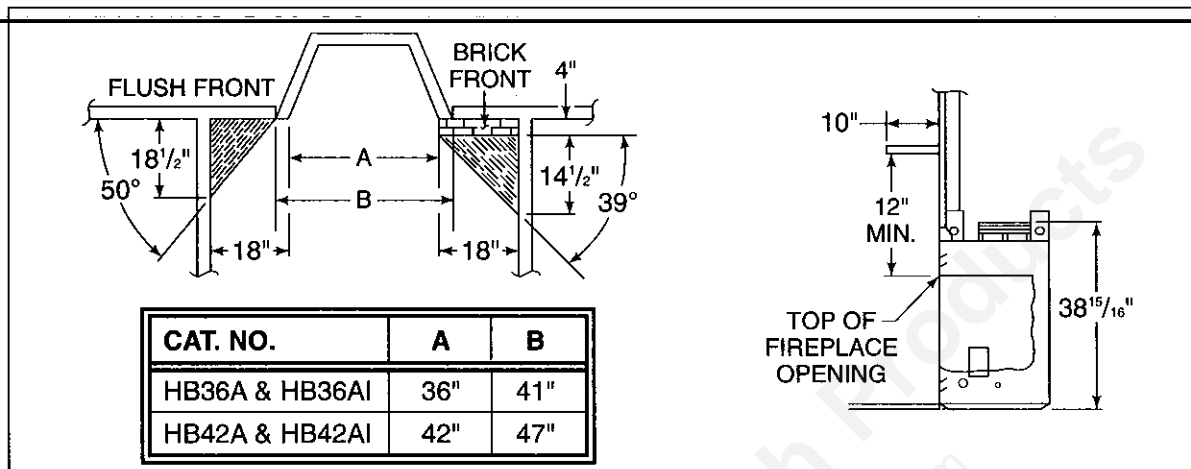

Figure 7
Adjacent combustible side walls must be located a minimum of 18" from the fireplace opening. See Figure 7. If you are using a decorative surround constructed of combustible material, it must be located
within the shaded area defined in Figure 7. Short stub walls are also acceptable if they are contained within the shaded area.
firebox opening. (See the shaded areas on each side of the firebox, as defined in Figure 7.) Combustible trim must not cover the black metal surfaces of the fireplace. This mantel clearance is in accordance with Section 7-3.3.3 of ANSI/NFPA 211.
2. Subtract the height of the firebox assembly (38¹⁵/₁₆") from the overall height of the fireplace installation. See Figure 7 (page 11).